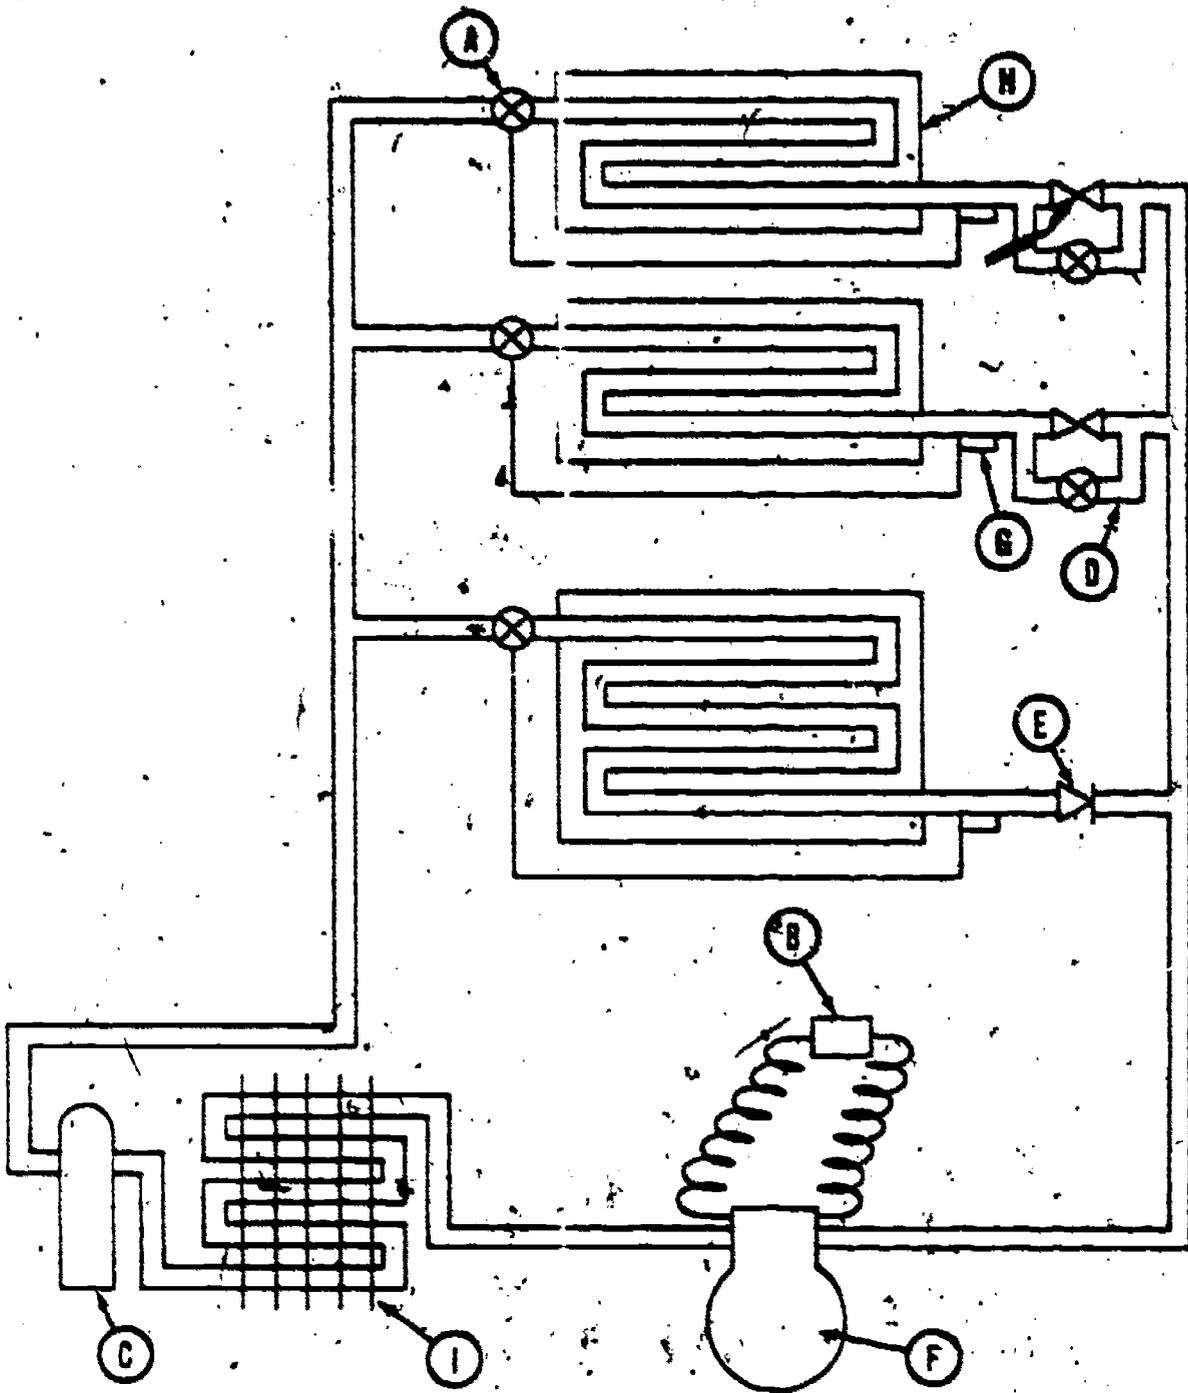

Figure 6. Evaporator Pressure Regulator System
- 1. Use the schematic of the EPR valve system in figure 6.